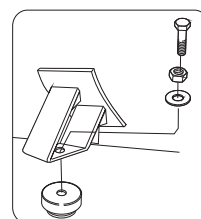

FIGURE 1
- Foundation/floor:** It must be placed on a concrete base, which must be able to bear the equipment weight plus the liquid (water) when of the hydrostatic test. The set must be level. The compressor models is equipped with rubber foot (assembled by owner) see Figures 2, 3 and 4 and Figure 1 for model MSV 12/175, place de compressor on anti-vibration (owner's responsibility), absorbs which, in turn, must be replaced on a concrete basis. The set must be level and the absorber must be adequate to support the equipment weight and vibration. **Note:** Use a little water to assembly the absorber for models MS 3/30, MSV 6/30 and MSV 6/50, Figure 3.